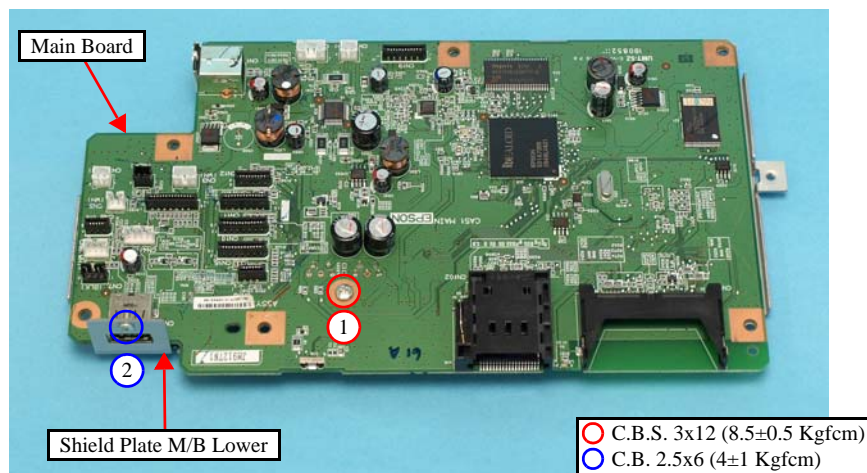

Figure 4-41. Removing the Main Board (2)
- When installing the Main Board to the Shield Plate M/B Lower, tighten the screw in the order given in Fig. 4-41.